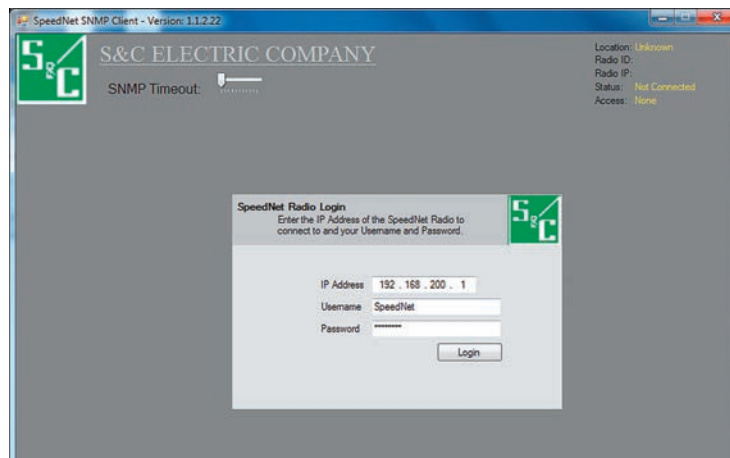

Figure 38. SpeedNet Radio login dialog box.
STEP 4. Open the Client Tool (see Figure 38) and enter: